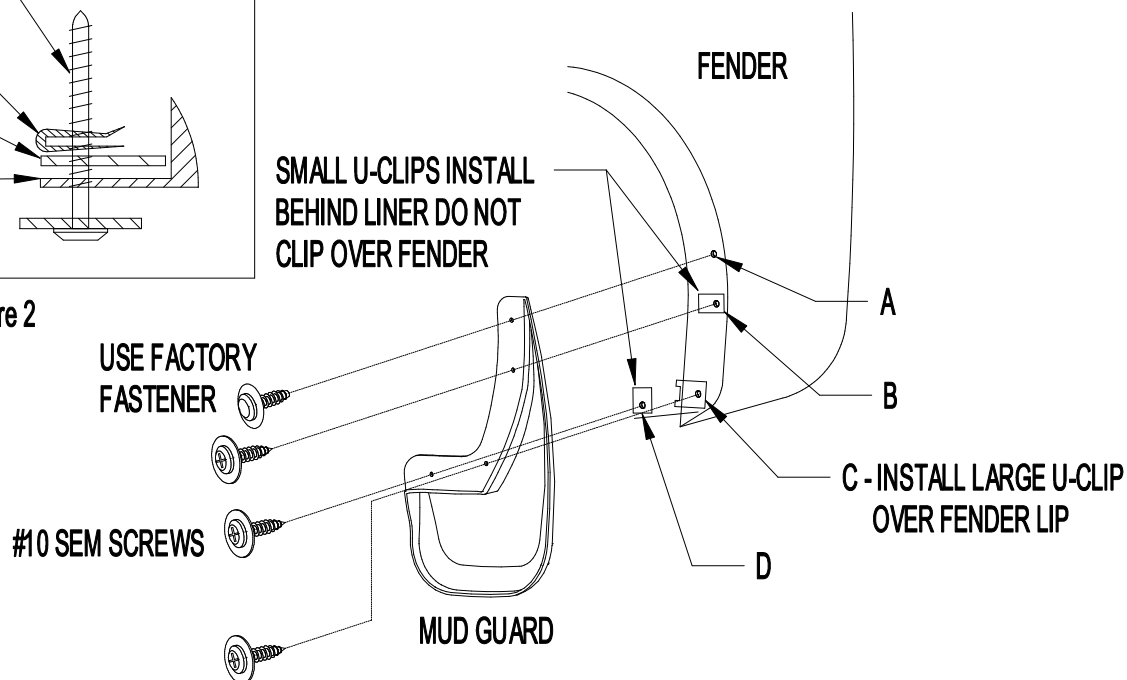

Figure 1
2. Remove existing fastener from location A and plastic fastener from location C (Figure 1).
3. Install mud guard to rear fender with existing fastener at location A (Figure 1). Check fit and parallel and adjust accordingly before tightening.
4. Install a **large** U-clip, #10 SEM screw at location C (Figure 1). NOTE: If mud guard looks tipped inboard it may be necessary to loosen fasteners and gently pull fender toward the outboard side of vehicle and retighten fasteners.